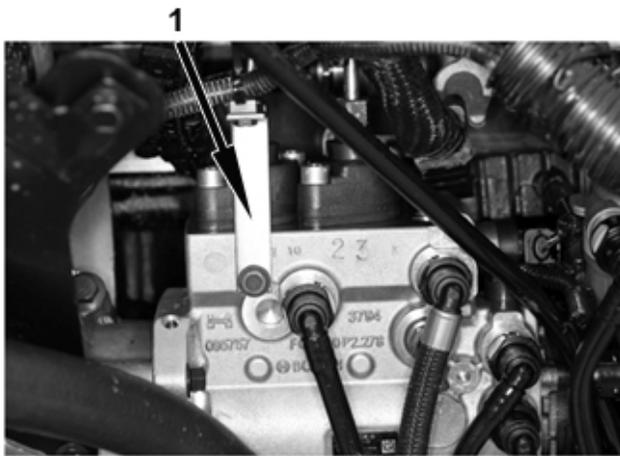
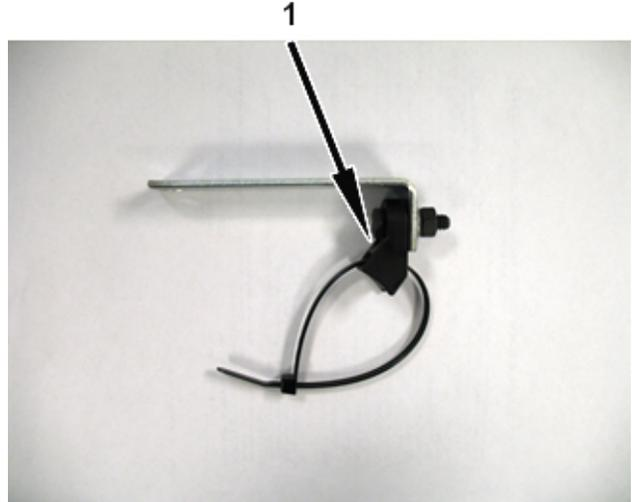

Figure 1
Figure 3
3. Inspect fuel case area, close to power steering pump, to see if extension stand-off bracket, saddle, and cable strap have already been installed (Figure 1). If extension stand-off is present, remove fuel case bolt that secures it and cut cable strap that secures the alternator harness. The extension stand-off bracket and saddle will be re-used but will need to be reassembled (Figure 3).
4. Assemble hardware as shown in Figure 2 to match Figure 3. Attach saddle (3545771C1) to extension (922860R1) and secure with saddle bolt (25483R1) using saddle lock washer (120380) and saddle nut 25519R1.